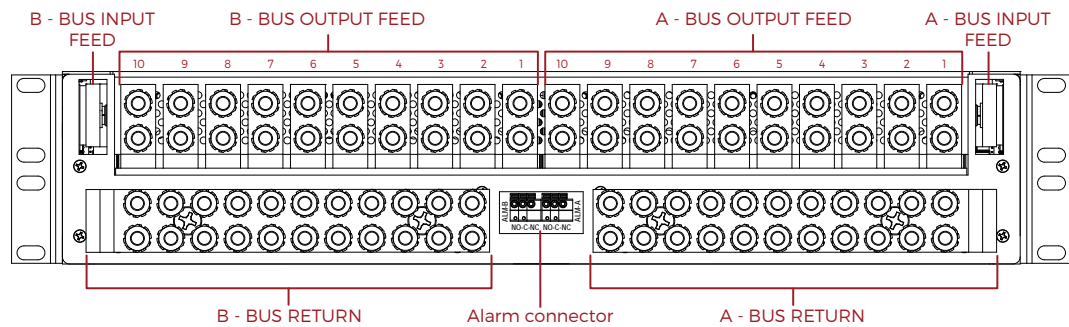

Figure 4. Back Panel View
9.1 Back View. Figure 4 shows the back of the DCPDU2B distribution panel. Inputs are at the left and right ends of the back panel. Side B outputs are at two rows of barrier terminal strips on the left side, and side A outputs are the same on the right side. At the center of the back panel are two spring clamp terminal blocks for the Form C relay contact outputs.
9.4 Output Connections. Output connections for A and B loads are shown in Figure 4. There are 10 sets of bus bar terminals for each side, A and B. The connections are numbered to correspond with the numbers of the front panel breakers. The upper strip connections are from the battery (FEED) through the breakers; the lower strip connections are the RETURNS. Side B is on the left and side A on the right when viewed from the rear.